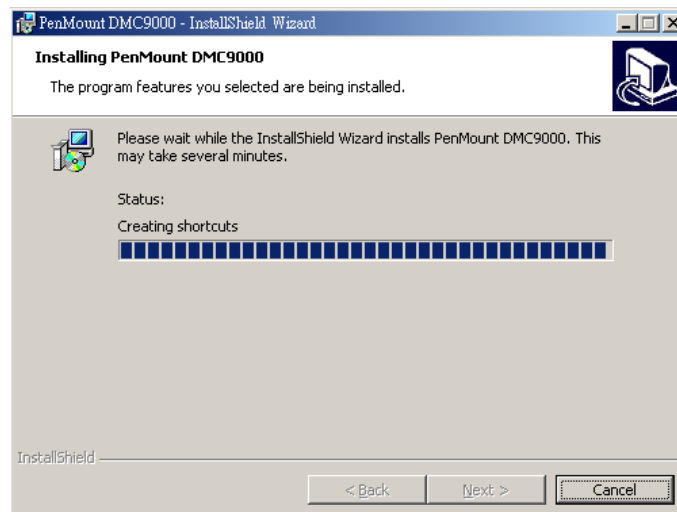

Figure 7-27: Installing PenMount DMC9000
Step 6: Click **INSTALL** to continue. The Installing PenMount DMC9000 screen appears as the program is installed (Figure 7-27).